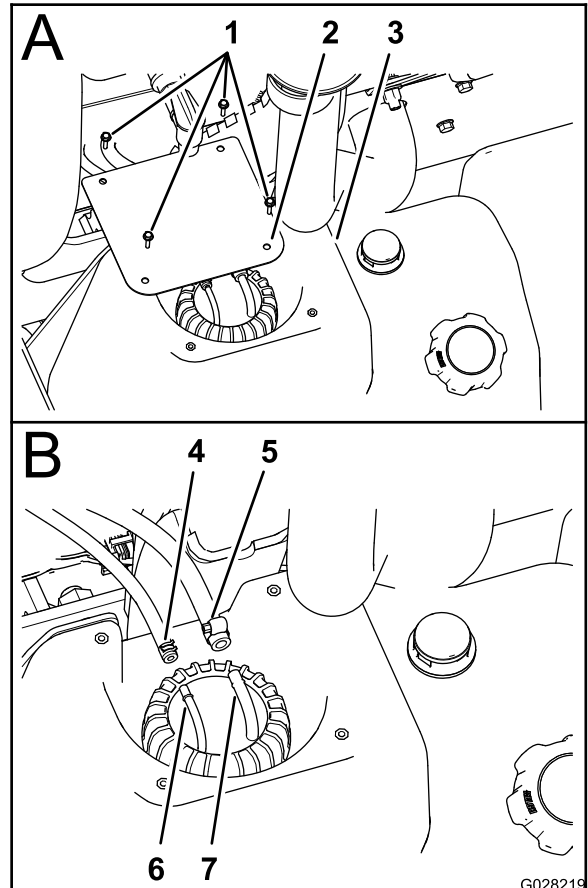

Figure 76
2. Remove the 4 screws (#10 x 3/4 inch) that secure the cover to the top of the fuel tank and remove the cover (Figure 76).
3. Loosen the clamps that secure the 2 fuel hoses to the 2 hose fittings at the top of the standpipe assembly (Figure 76).
4. Disconnect the 2 hoses from the hose fittings and allow any fuel in the hoses to drain into an approved fuel container (Figure 76).
4. Assemble the 6.4 mm (1/4 inch) fuel hose onto the 6.4 mm (1/4 inch) hose fitting and secure the hose to the fitting with the hose clamp (Figure 76).
5. Assemble the 8 mm (5/16 inch) fuel hose onto the 8 mm (5/16 inch) hose fitting and secure the hose to the fitting with the hose clamp (Figure 76).